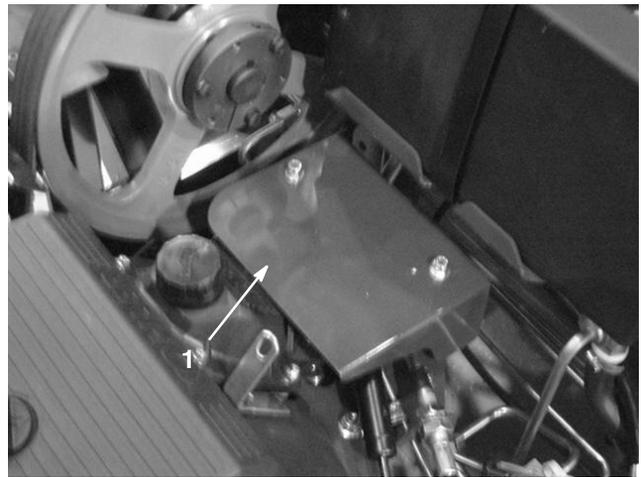

Figure 57
2. Remove the (2) pump shield mounting nuts and remove shield (Fig. 57).